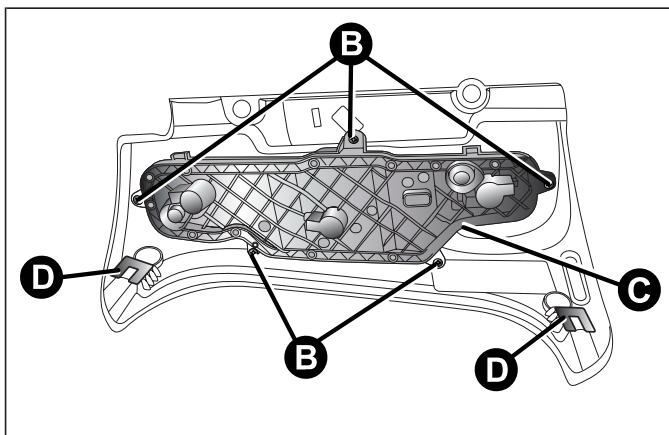
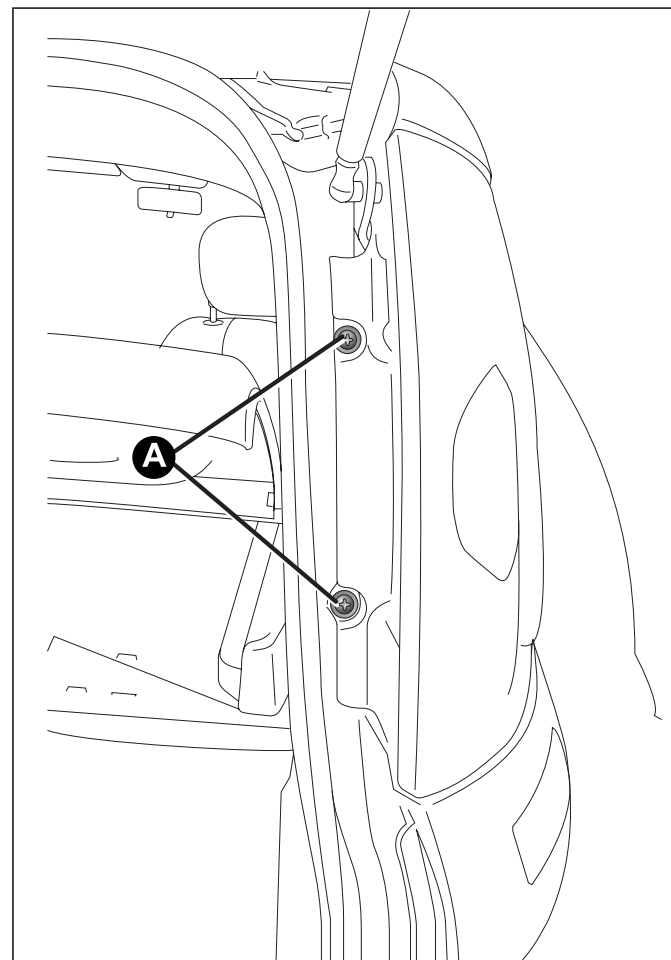

fig. 132
fig. 131
- ☐ slacken the two screws A fig. 131 from their seats, pull gently outwards until releasing the whole headlight from the two clips (press-fitted D fig. 132) and release the connector;
- ☐ undo the five screws B from their seats and remove the bulb holder C fig. 132;